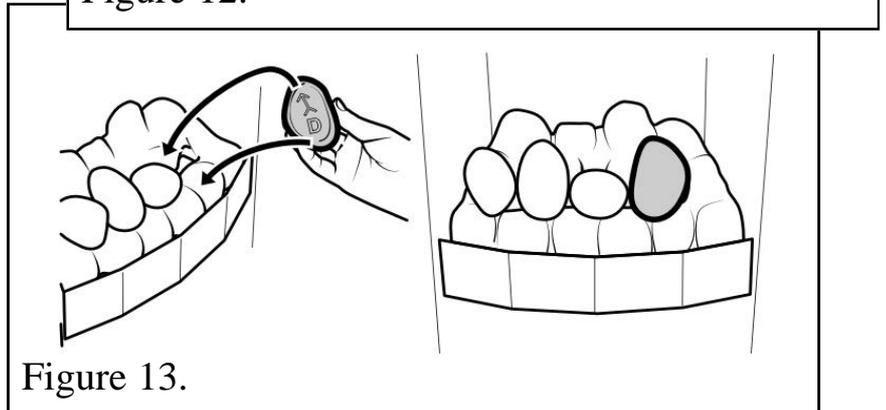

Figure 13.
6. Hold pebble 'D' upright with the arrow pointing to the top. Place pebble "D" on top of the base pebble (See figure 13).